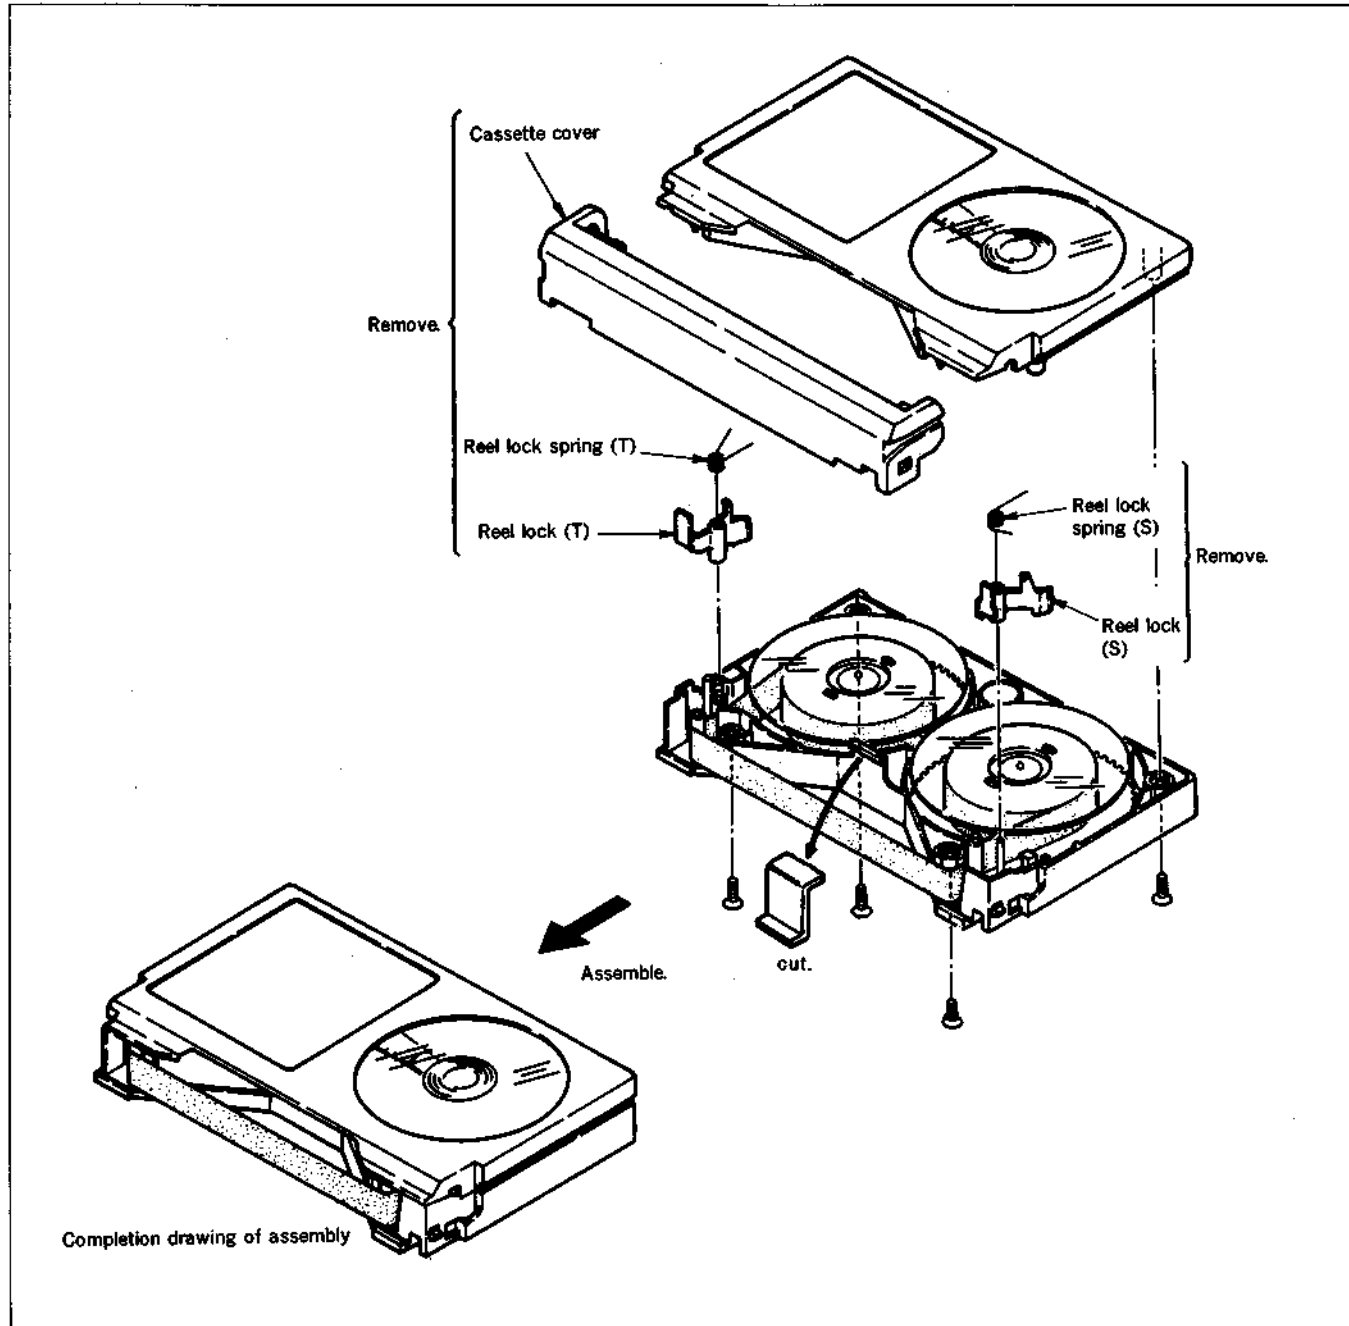

Fig. 7-31.
- 1) Remove the alignment tape cassette cover as shown in Fig. 7-31.